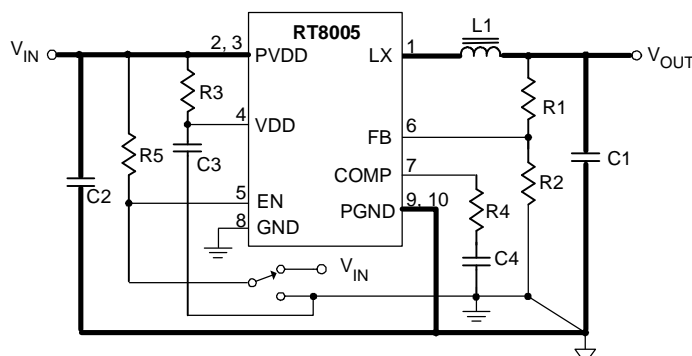

Figure 1
1. For the main current paths as indicated in bold lines in Figure 1, keep their traces short and wide.